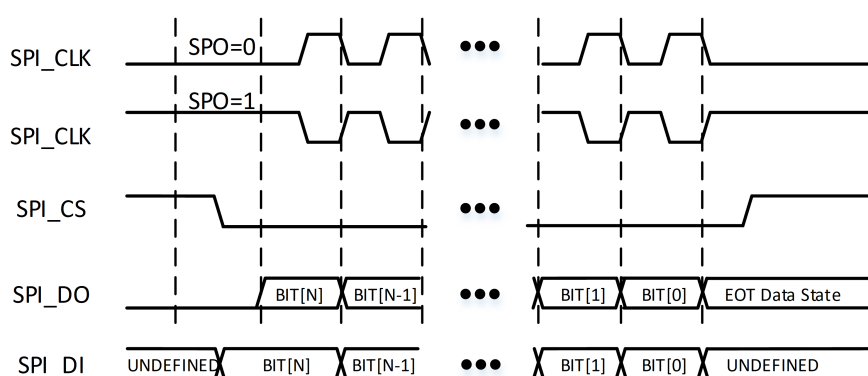

Figure 7-3: SPI communication when SPH is 0
- SPI Format: SPI is a full-duplex synchronous serial communication protocol, divided into four sub-modes based on the SPO and SPH settings in the TOP_CTRL register. SPO configures the polarity of the SPI_CLK clock when the SPI controller is either disabled or in the IDLE state. When SPO is 0, the SPI_CLK polarity is low, and the first edge is a rising edge; When SPO is 1, the SPI_CLK polarity is high, and the first edge is a falling edge. SPH configures the timing of the clock edges for driving and sampling data. When SPH is 0, the SPI controller samples data on SPI_DI at the first edge of SPI_CLK and drives SPI_DO at the second edge of SPI_CLK (by default, SPI_DO outputs the MSB of the data to be transmitted); When SPH is 1, the SPI controller drives SPI_DO from the first edge of SPI_CLK and samples data on SPI_DI from the second edge of SPI_CLK. The specific communication timing is shown in Figures 7-3 and 7-4.
The SPI protocol communication process is described below with reference to Figure 7-3 for the case of SPH=0 and SPO=0. When the SPI controller is disabled or in the IDLE state after being enabled, SPI_DO is at a low level, SPI_CS is at a high level, and SPI_CLK is at a low level. The SPI_CS signal is pulled low to initiate a data transmission and remains low until the current data frame transmission is complete. After half a SPI_CLK cycle, the data for this transmission of MSB is driven onto the SPI_DO line. After another half SPI_CLK cycle, the SPI_CLK rises to initiate the first rising edge and sample SPI_DI.